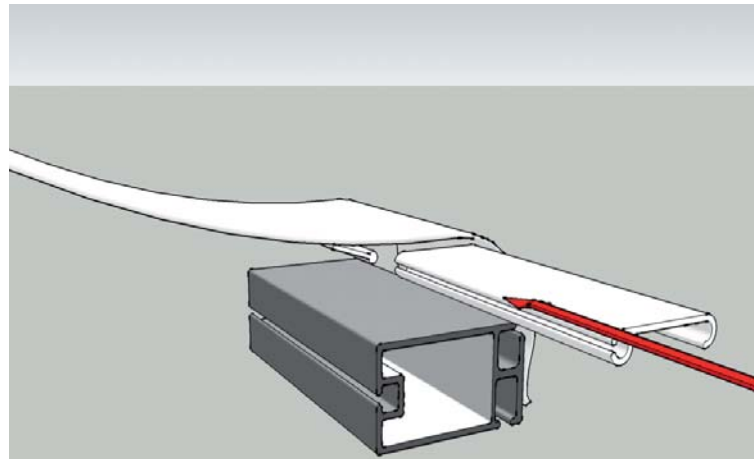

Fig 1
Step 7) fitting the roof cover, Once you have got the centre pole assembly fitting installed you can start to secure the roof cover to the frame, this is done by the use of the P channel locking device you will need to slide the p channel onto the keder of the roof sheet (fig 1) then clip this over the edge of the eave beam (fig 2) once you have done one side install the p channel to the opposite side. You may find once you get to side 3 and 4 the p channels may become harder to fit due to the tension in the roof cover. On these sides start fitting the p channel from the centre on the eave and work back to the corners, you may find this much easier. Once all side have the P channel fitted and before you tension the roof make sure all the corners are aligned as once it is tensioned this will not be possible.